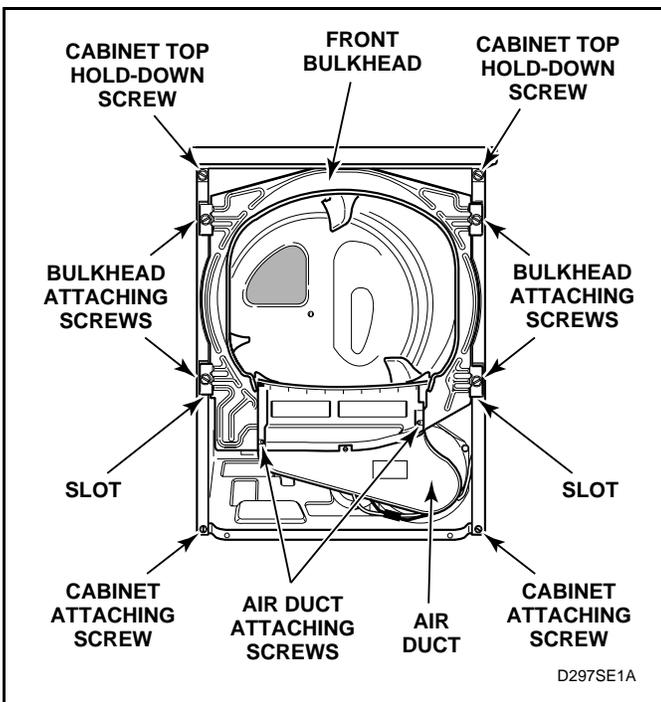

Figure 47
- f. Remove four screws holding bulkhead to front flange of cabinet and lift complete bulkhead assembly out of slots in cabinet. See *Figure 47*.
- f. Remove four screws holding bulkhead to front flange of cabinet. Then, lift complete bulkhead assembly out of slots in cabinet. See *Figure 47*.
- Remove four screws holding bulkhead to front flange of cabinet. Then lift complete bulkhead assembly out of slots in cabinet. See *Figure 47*.
- Remove two cabinet top hold-down screws. See *Figure 47*.
- h. Remove four screws holding bulkhead to front flange of cabinet. Then, lift complete bulkhead assembly out of slots in cabinet. See *Figure 47*.
- e. Remove two cabinet top hold-down screws. See *Figure 47*.